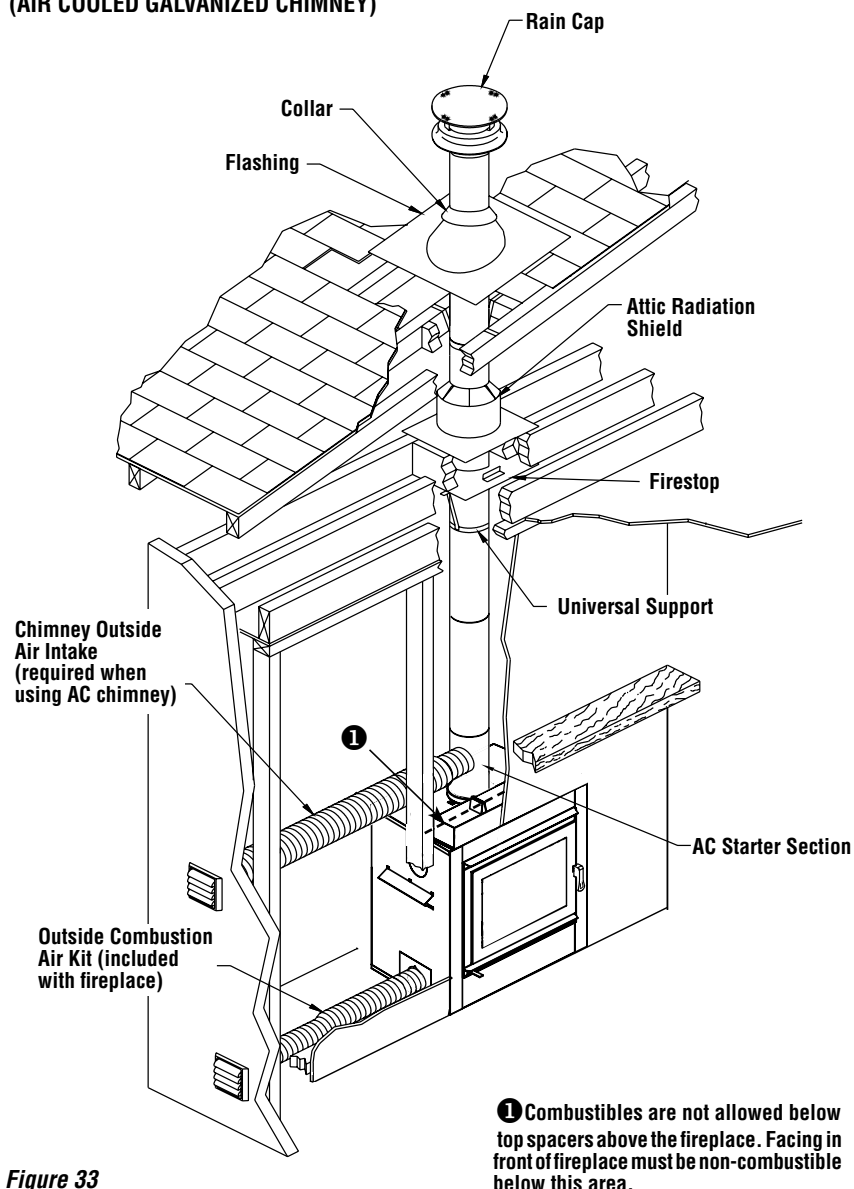

Figure 33
3. For ASHT+ / HT6103+ / DuraTech DTC* and S2100+ / HT6000+ chimneys place the first chimney length on the fireplace. Secure it to the collar with four screws equally spaced around the perimeter. With the AC chimney, you must use a starter section before installing the first chimney length (**Figure 33**). Continue installing chimney lengths making sure to lock each length in place.